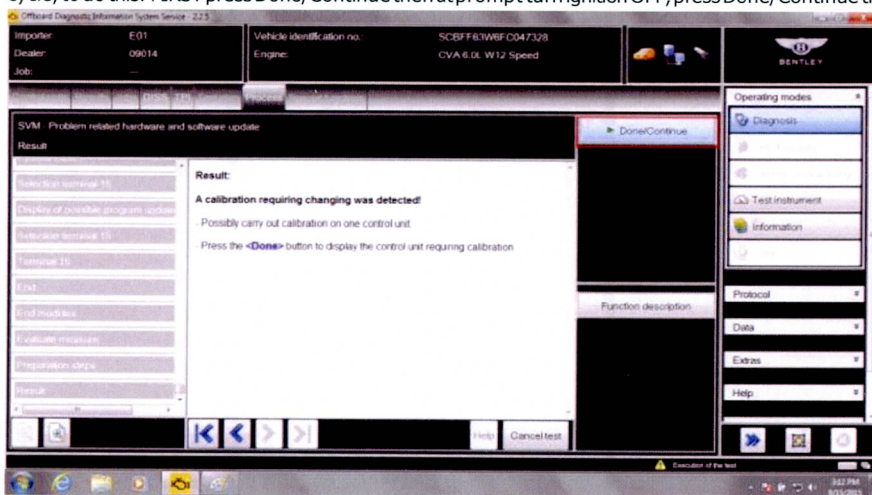

Figure 10
26. At Result screen select Done/Continue and if prompted perform any required calibration (see Figure 10)